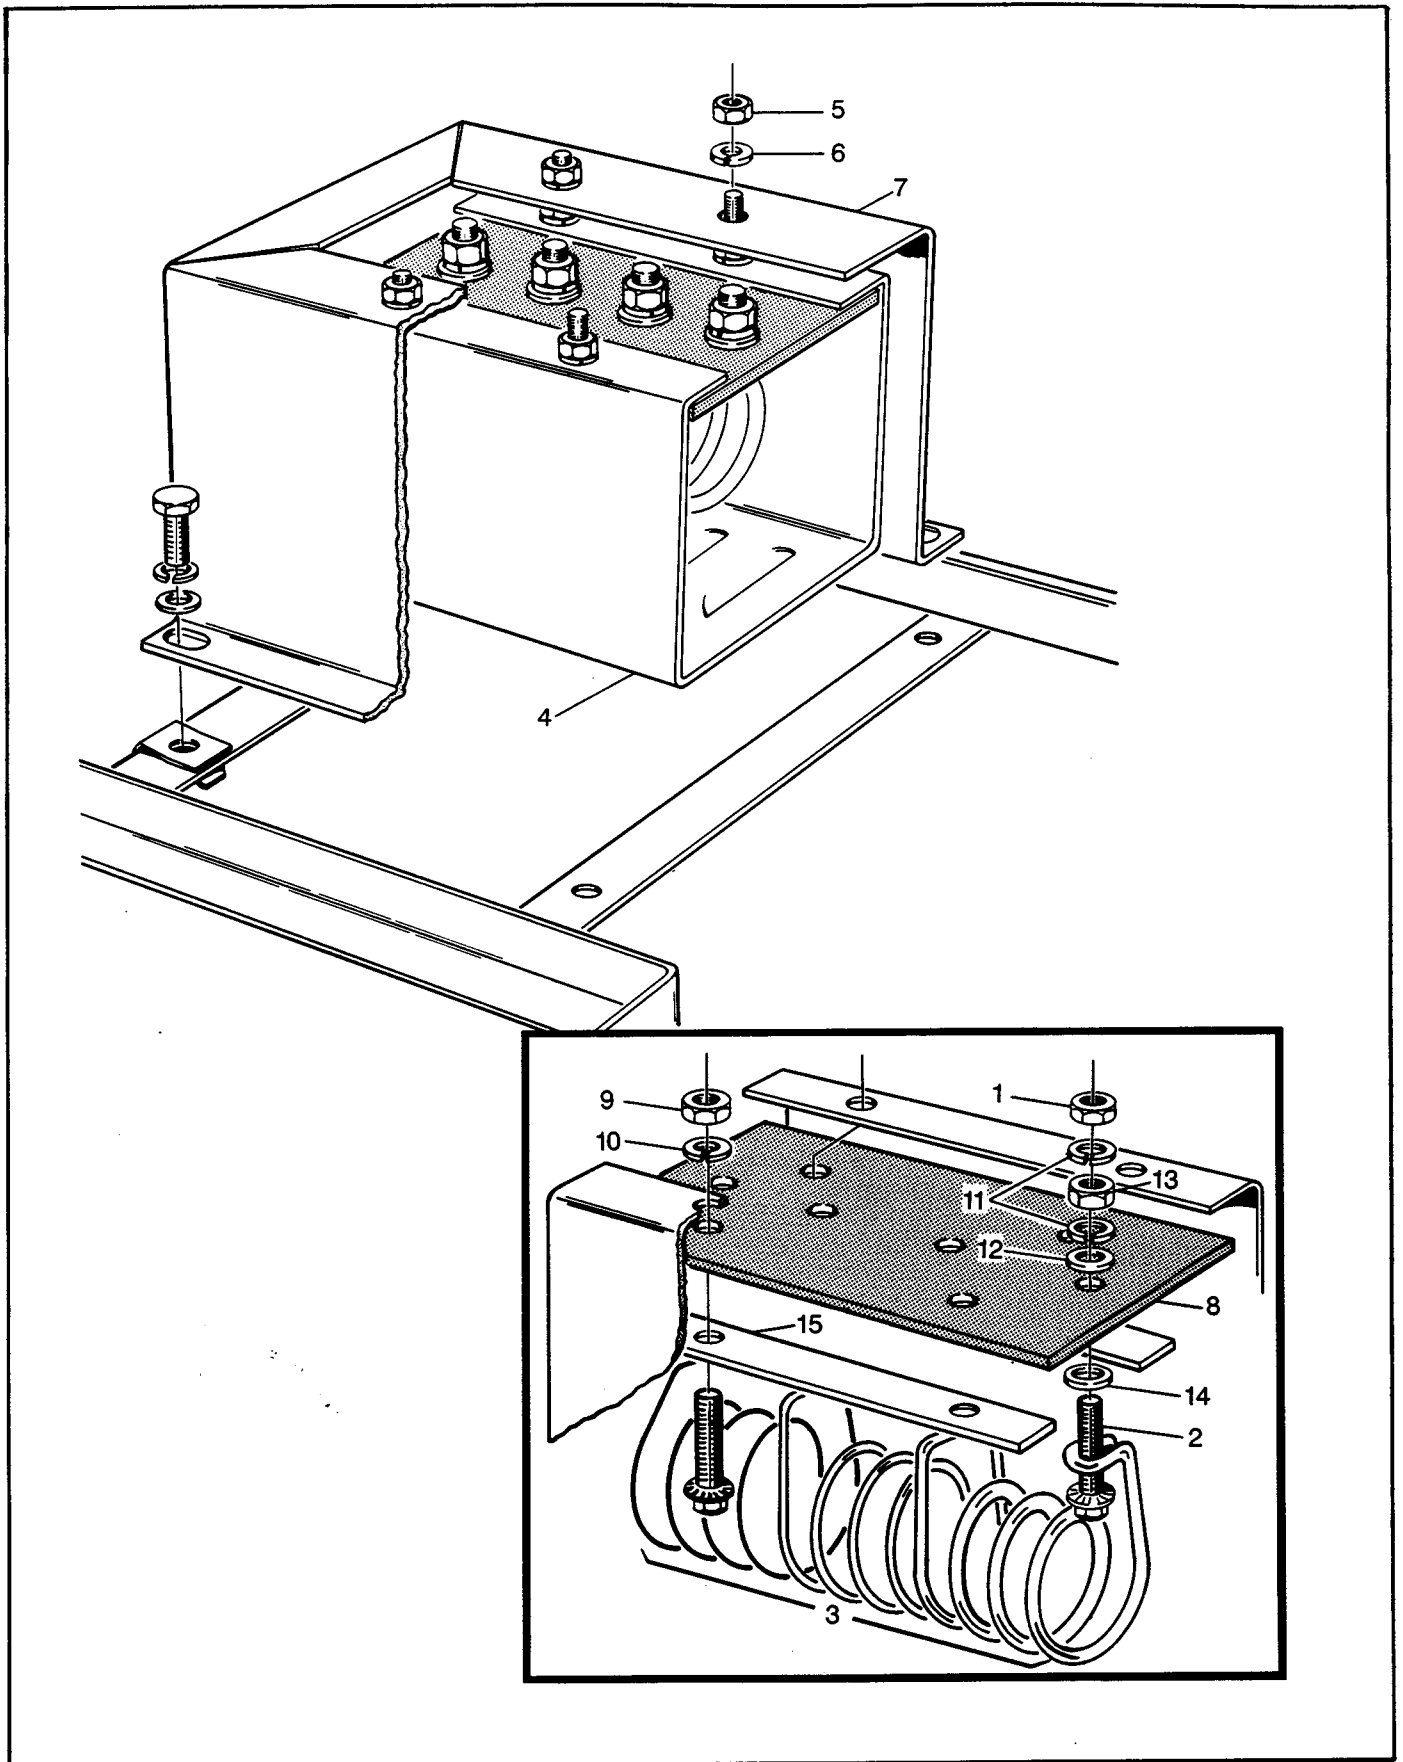

FIG. K-11 RESISTOR ASSEMBLY
**RESISTOR REPLACEMENT (Fig. K-11)**